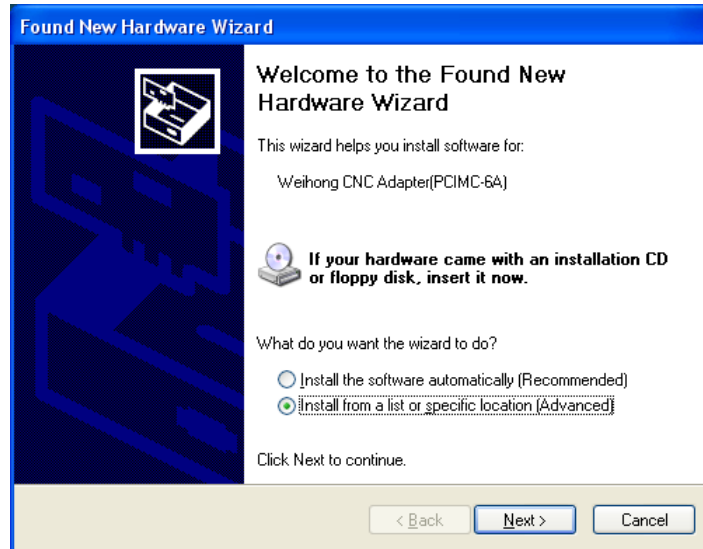

Fig. 3-1 Beginning of driver update
- 1) Right click “My Computer”, select “Properties”, and click “Device Manager” under “Hardware” tab in the “System Properties” window. And then find “CNC Adapters” in the pop-up “Device Manager” window, right click the option under “CNC Adapters”, and select “Update Driver...” to start updating the hardware driver. A new window appears, as shown in Fig. 3-1.